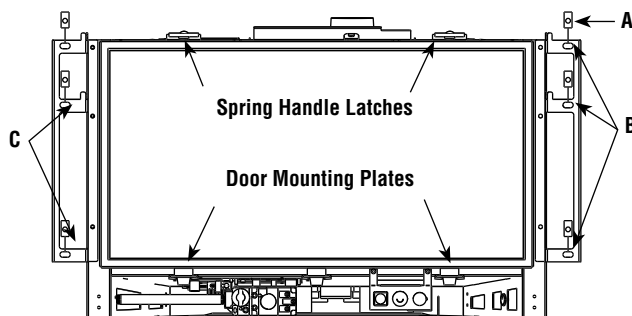

Figure 12
1. Remove the speed nuts (A in **Figure 12**) from the parts bag and install (with the flat surface forward) on the six holes in the surround brackets - three on each side of the insert (B in **Figure 12**). A flat bladed screwdriver may help in installing the nuts.
The faces come with hooked brackets. To install the face, hang the hooked brackets on the surround brackets per instructions provided in decorative face kit (C in **Figure 12**).